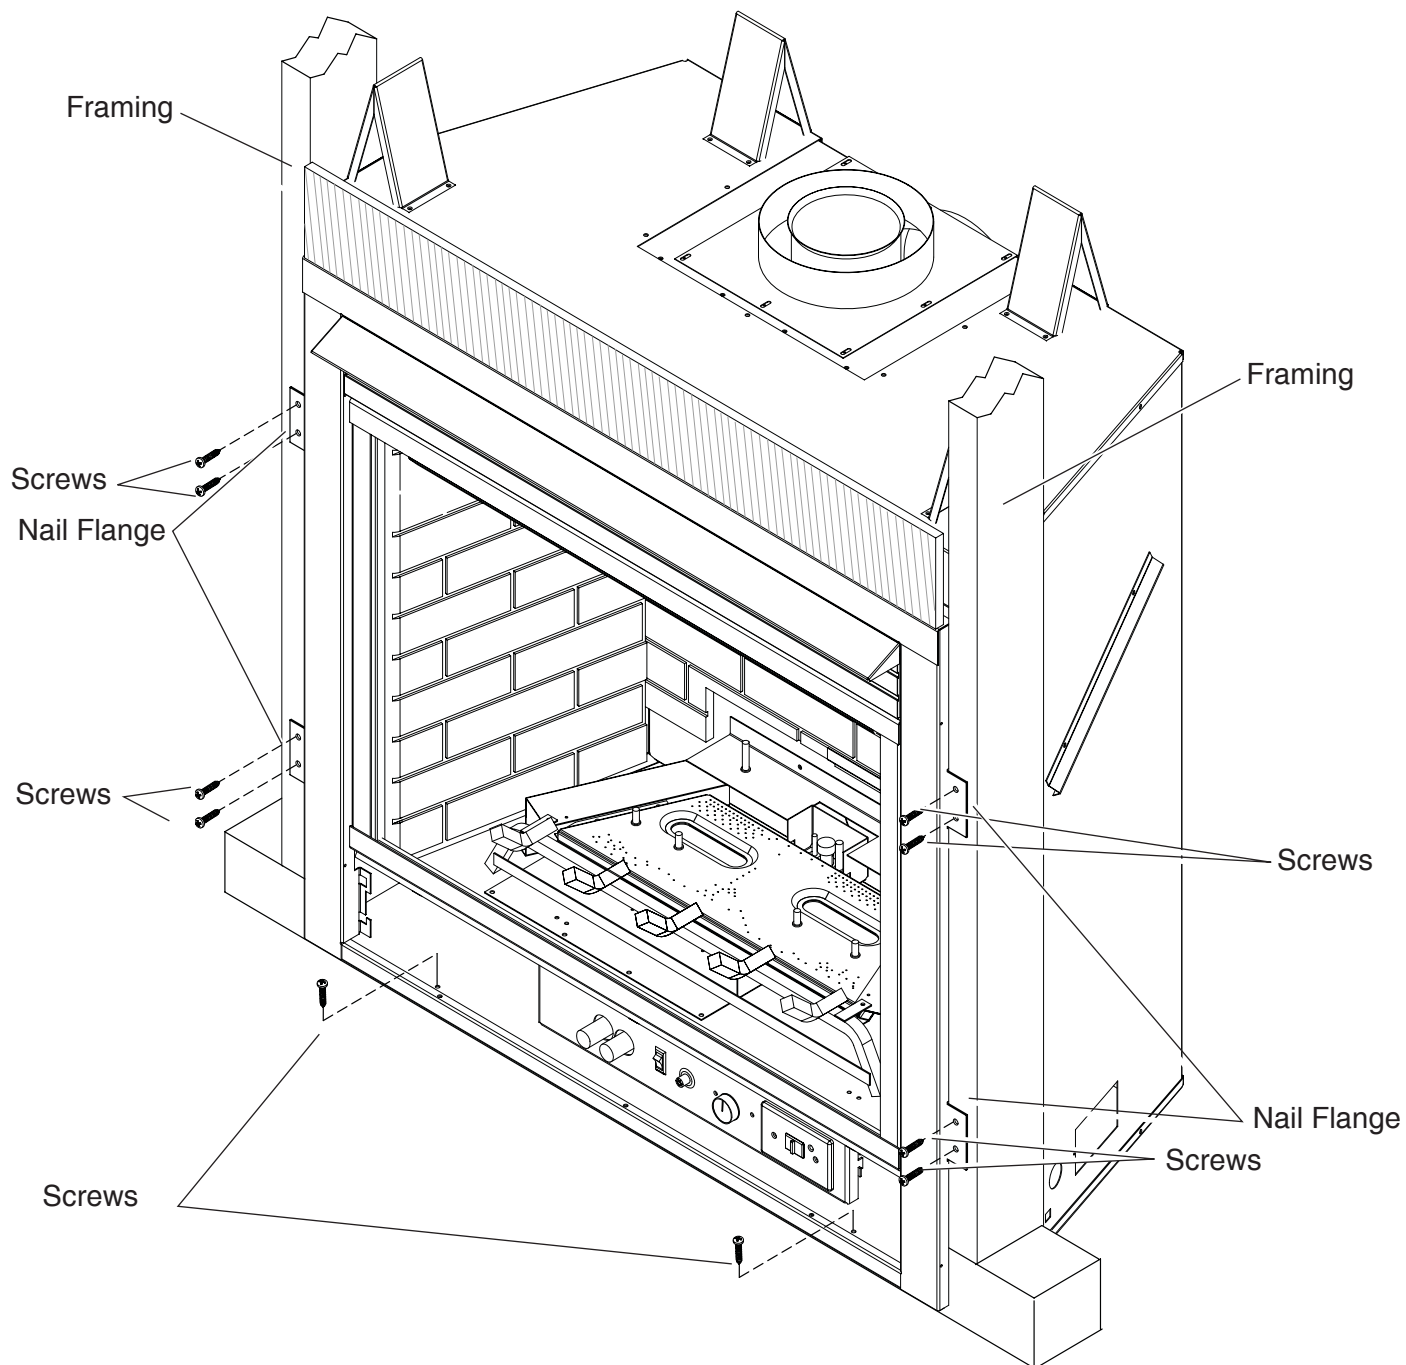

Figure 5 - Securing Fireplace to Floor and Framing Studs
The fireplace must be secured to the floor and/or to framing studs as shown in *Figure 5*. Use two (2) wood screws or masonry/concrete screws to secure fireplace to the floor. Use four (4) screws to attach fireplace to framing. The side brackets or nailing flanges are designed to accommodate two thickness of wall boards ($\frac{1}{2}$ " or $\frac{5}{8}$ ").